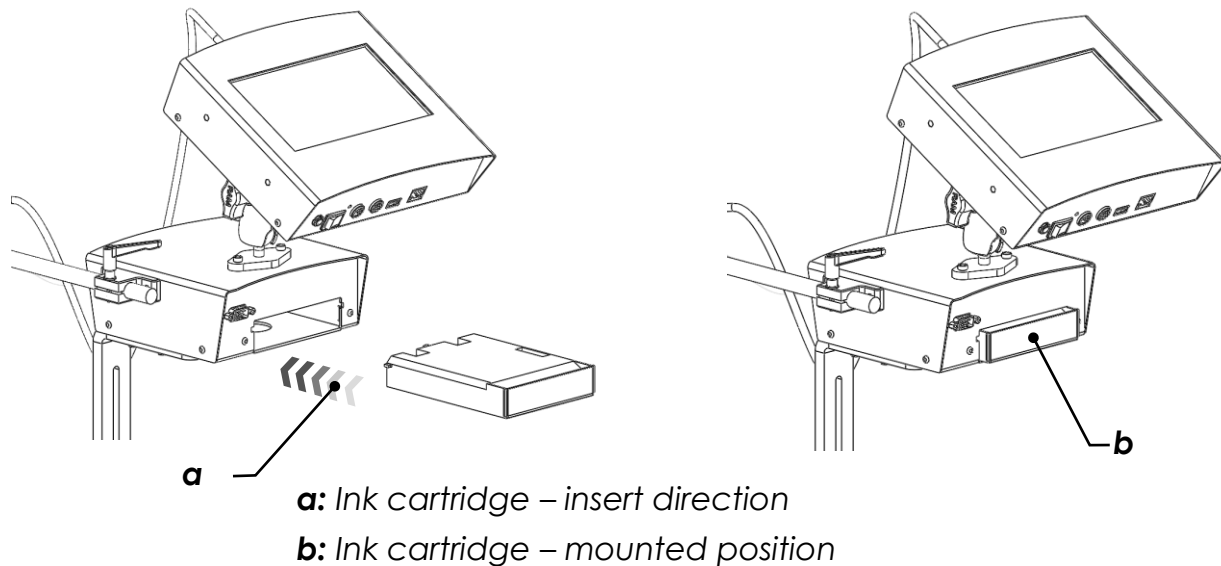

Figure 39
- Ease the cartridge into the unit until it is within the ink system and tightly gripped (see Figure 39).